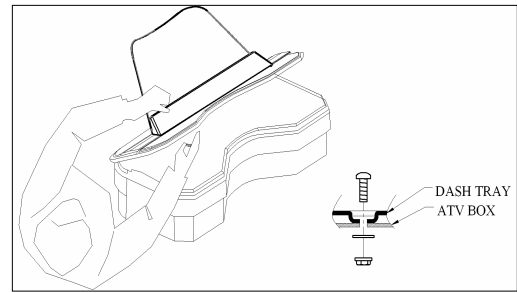

fig. 2
5. Install the Windshield/Dash Tray assembly to the top of the Cargo Box using the four metal screws and flanged nuts. (fig. 2)